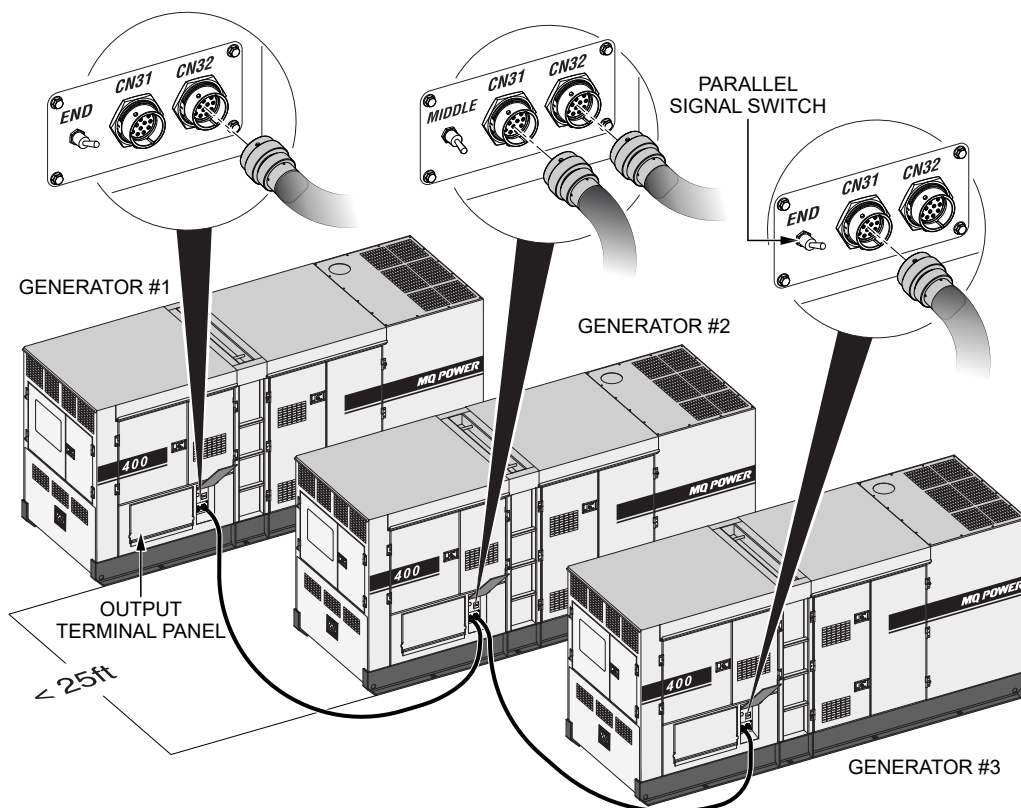

Figure 82. Communication Cable Connections (Three Or More Generators)
1. Make sure the spacing between each generator does not exceed **25 feet (7.62 m)**. See Figure 82.
2. **On generator #1**, connect the male end of a 25-foot (7.62-meter) communication cable to the female parallel operation receptacle labeled **CN32** (Figure 82).
3. Connect the female end of the communication cable to the male parallel operation receptacle labeled **CN31** on **generator #2** (Figure 82).
4. **On generator #2**, connect the male end of a 25-foot (7.62-meter) communication cable to the female parallel operation receptacle labeled **CN32** (Figure 82).
5. Connect the female end of the communication cable to the male parallel operation receptacle labeled **CN31** on **generator #3** (Figure 82).
6. Connect any remaining generators to the system using additional communication cables as shown in Figure 82.
7. **On generator #1**, place the **Parallel Signal switch** in the **END** position (Figure 82).
8. **On the last generator in the system**, place the **Parallel Signal switch** in the **END** position (Figure 82).
9. **On each generator located in between the first and last generators**, place the **Parallel Signal switch** in the **MIDDLE** position (Figure 82).